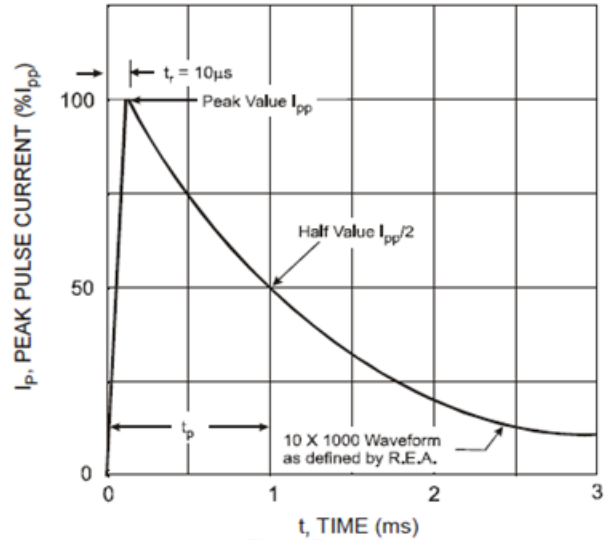

Fig. 4 Pulse Waveform
10. Per 10 x 1000µs waveform. See Figure 4.